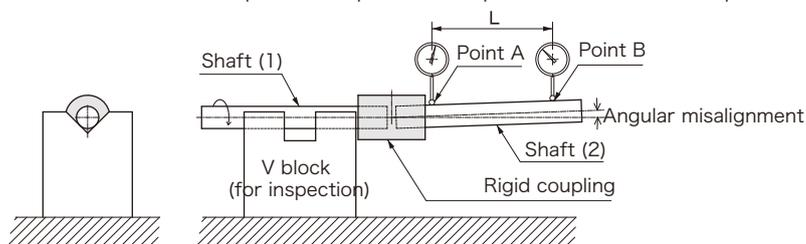

Fig.1 Simple measurement method for parallel and angular misalignments.
■ Measuring methods for parallel and angular misalignments in assembly (see Fig. 1)